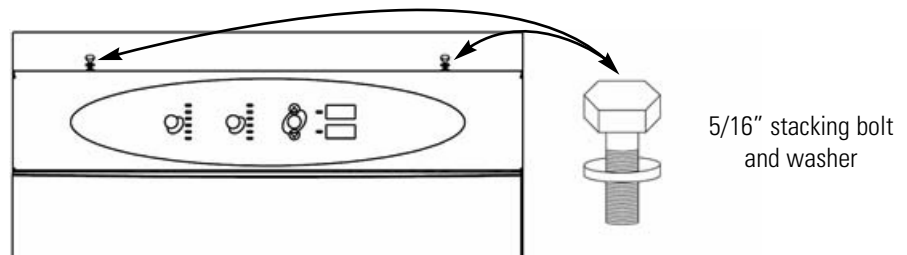

Figure 1-6. Bolt Holes
3. Remove the two plastic plugs from the bolt holes in the exterior top of the bottom unit. Install the 1/2" long 5/16-18 stacking bolts and washers into the bolt holes - do not tighten the bolts at this time. Refer to Figure 1-6.